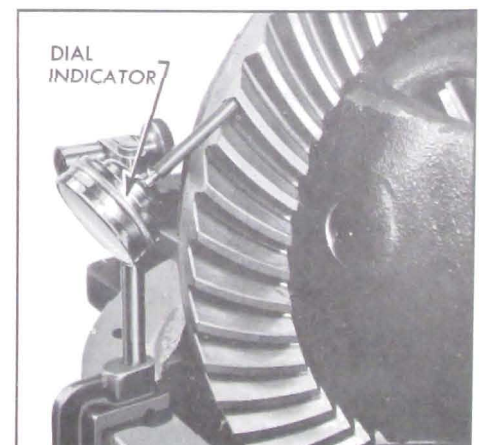

Fig. 6-33—Checking Ring Gear to Pinion Backlash
1. Rotate differential case several times to seat bearings, then mount dial indicator as shown in Fig. 6-33. Use a small button on indicator stem so that contact can be made near heel end of tooth. Set dial indicator so that stem is as nearly as possible in line with gear rotation and perpendicular to tooth angle for accurate backlash reading.